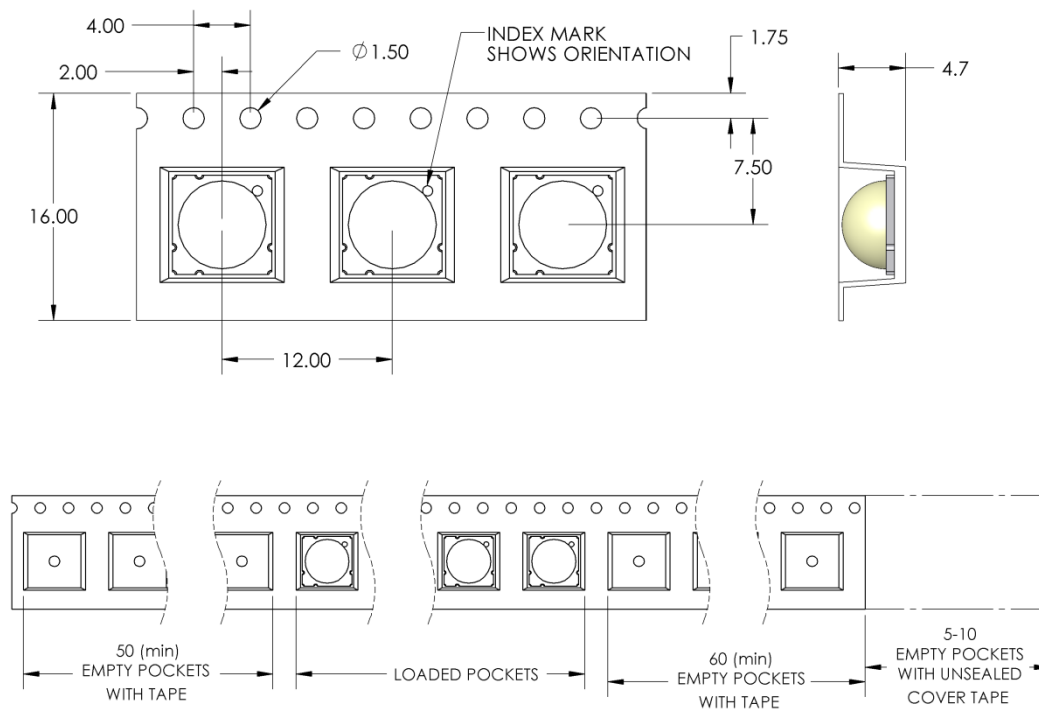

Figure 12: Emitter carrier tape specifications (mm).
- Maximum DC forward current is determined by the overall thermal resistance and ambient temperature. Follow the curves in Figure 12 for current derating. Max current for continuous operation is 1.0A